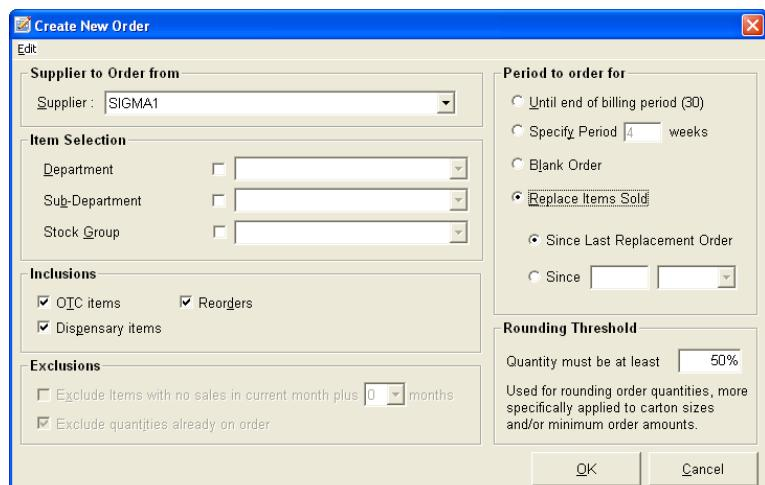

Figure 285
3. The ‘Create New Order’ screen will then display (as shown in Figure 285).